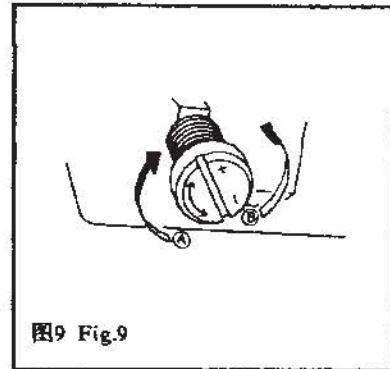

图9 Fig.9
c. 调节旋钮油量（图 9）
c. Adjusting the oil of rotary hook (Fig 9)